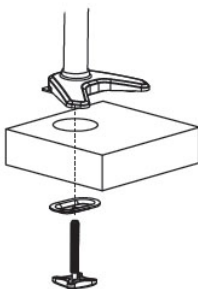
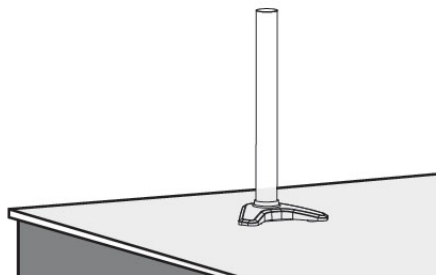

Figure 9
Figure 10
5. Position the Tube Support on the mounting surface and secure using the support plate and clamp screw, see Figure 9 and Figure 10. **Warning:** Carefully screw the clamp screw into the grommet plate to prevent cross-threading and damage to the clamp screw.